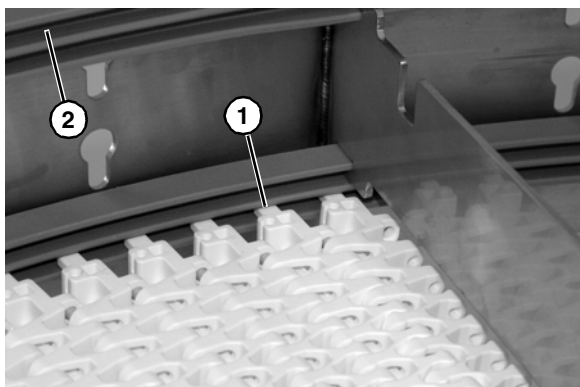

Figure 26
5. Be sure belt tabs are seated in the lower channel of bottom belt guide (**Figure 26, item 1**) and upper channel of top belt guide (**Figure 26, item 2**).